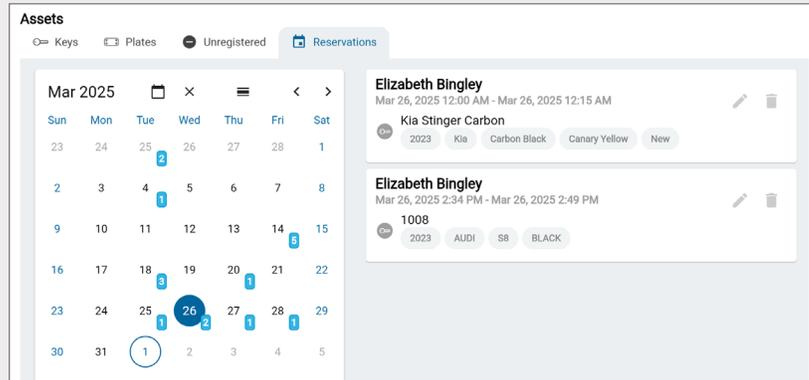

Fig. 168 – Assets screen – Reservations tab – reservation details
The **Reservations** tab shows all reserved assets organized into a calendar view, as shown in Fig. 168. A number in a bubble on a date indicates the number of reservations for that day, if there are any.
1. Select a date with one or more reservations to display the reservation details, as shown in Fig. 168.